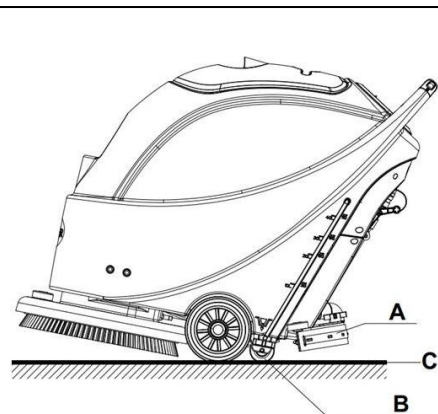

Figure 12
8. Release the safety switch (1) to turn off the brush/pad-holder and solenoid valve.
9. Press the Vacuum pump switch (42) to the "O" position, and the Vacuum pump will delay for 5 seconds before stopping work.
10. Press the water flow volume control switch (44) to the "O" position to completely turn off the work of solenoid valve.
11. Press the power switch (41) to the "O" position.
12. Use the squeegee lifting handle (14) to lift the squeegee.
13. Grasp the handlebar (2) and gently tilt the machine backward until the guide wheel (B) touches the floor. See Figure 12.